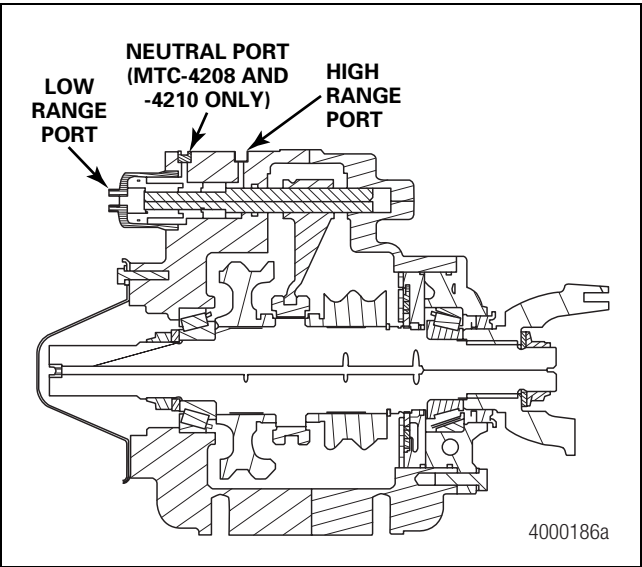

Figure 6.14
- 1. Grease all O-ring seals. Use a light coat of lithium-based grease, Meritor specification O-688. Refer to Figure 6.14 for shifter component arrangement.